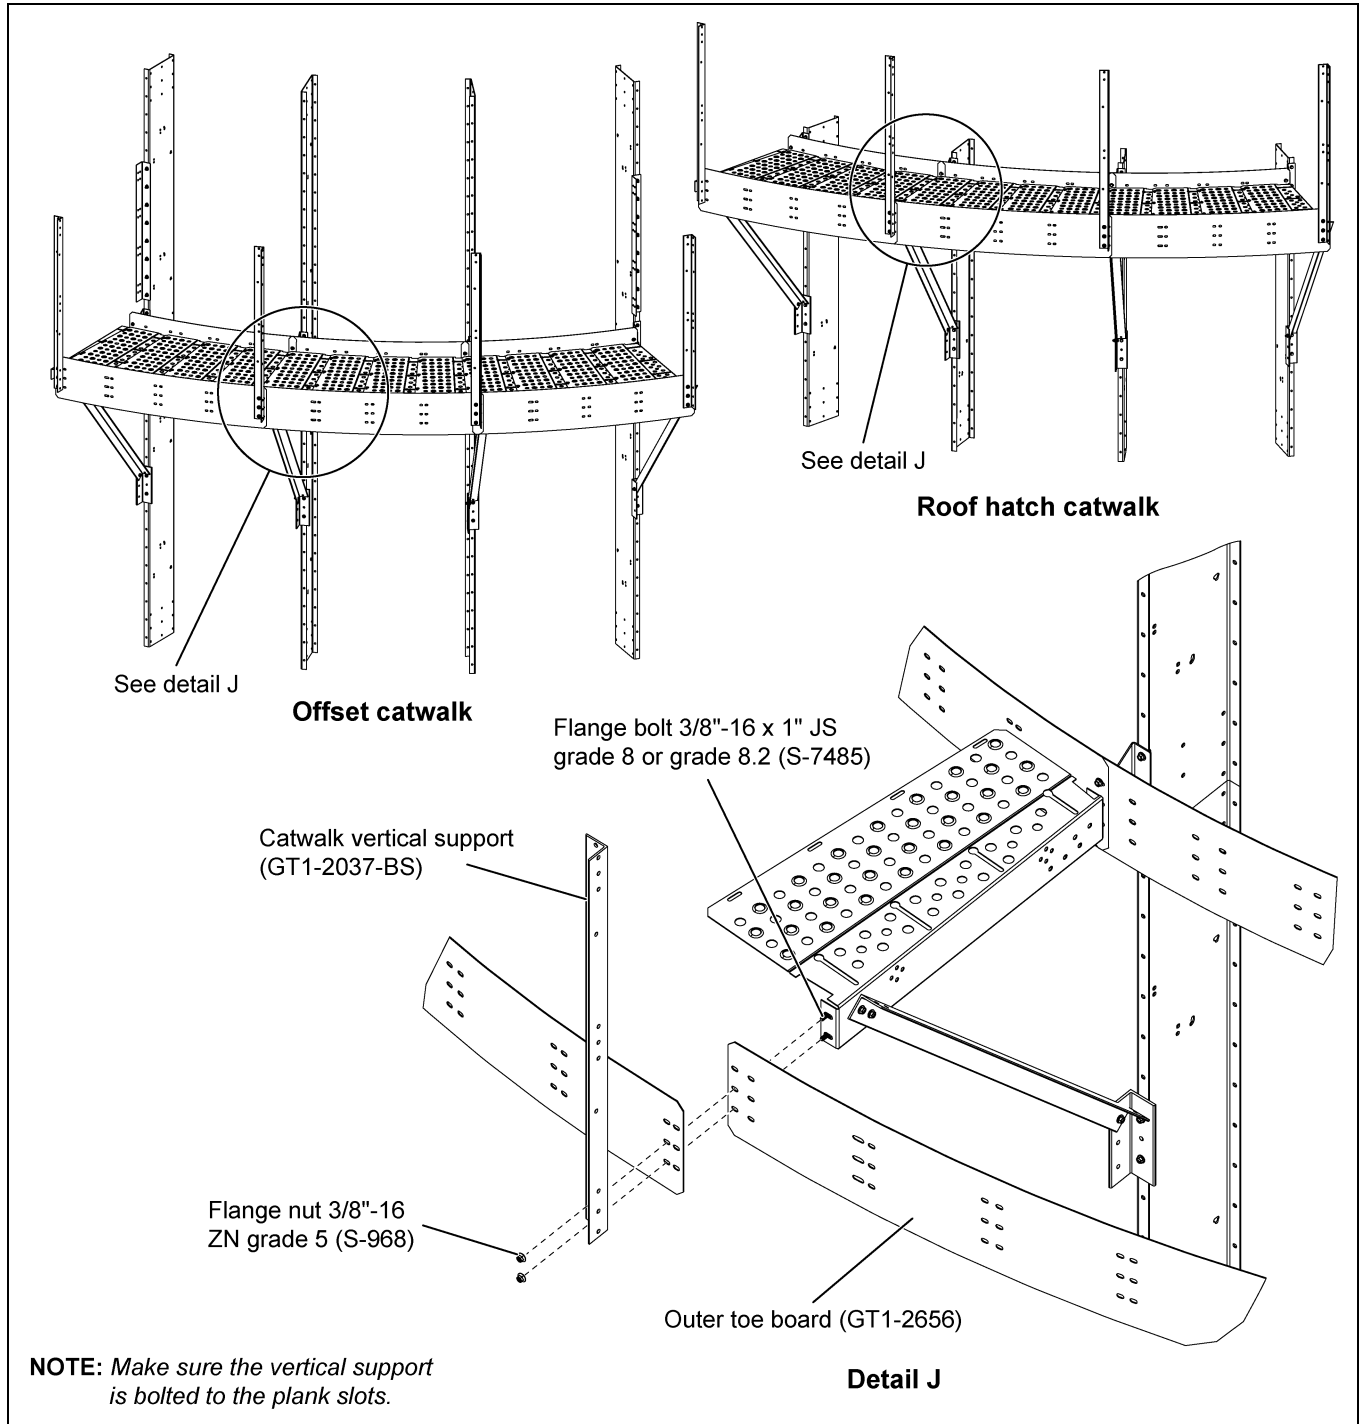

Figure 6T Outer Toe Board (GT1-2656) and Vertical Support (GT1-2037-BS)
1. Install all the outer toe boards (GT1-2656) to the planks (GT3-1669). (See Figure 6T.)
2. When installing the outer toe board with planks, install the catwalk vertical support (GT1-2037-BS) simultaneously at proper locations using 3/8"-16 x 1" JS grade 8 or grade 8.2 bolts (S-7485) and 3/8"-16 ZN grade 5 nuts (S-968). (See Figure 6T.)